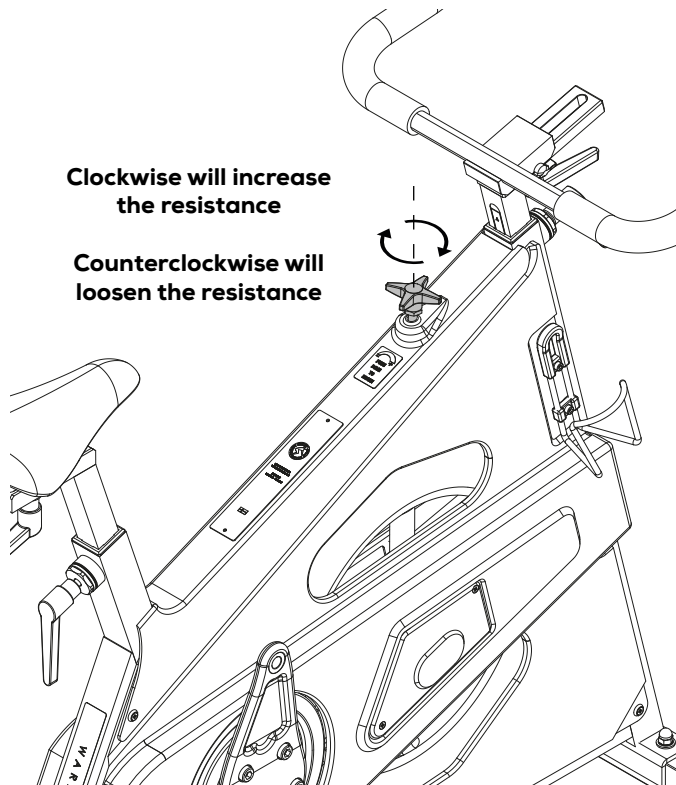

Figure 7
2) Put maximum resistance on the brake, so the pedalarm is unable to rotate, see figure 7.
- 3) Release tension completely on the brake. Counterclockwise will loosen the resistance. See figure 7.